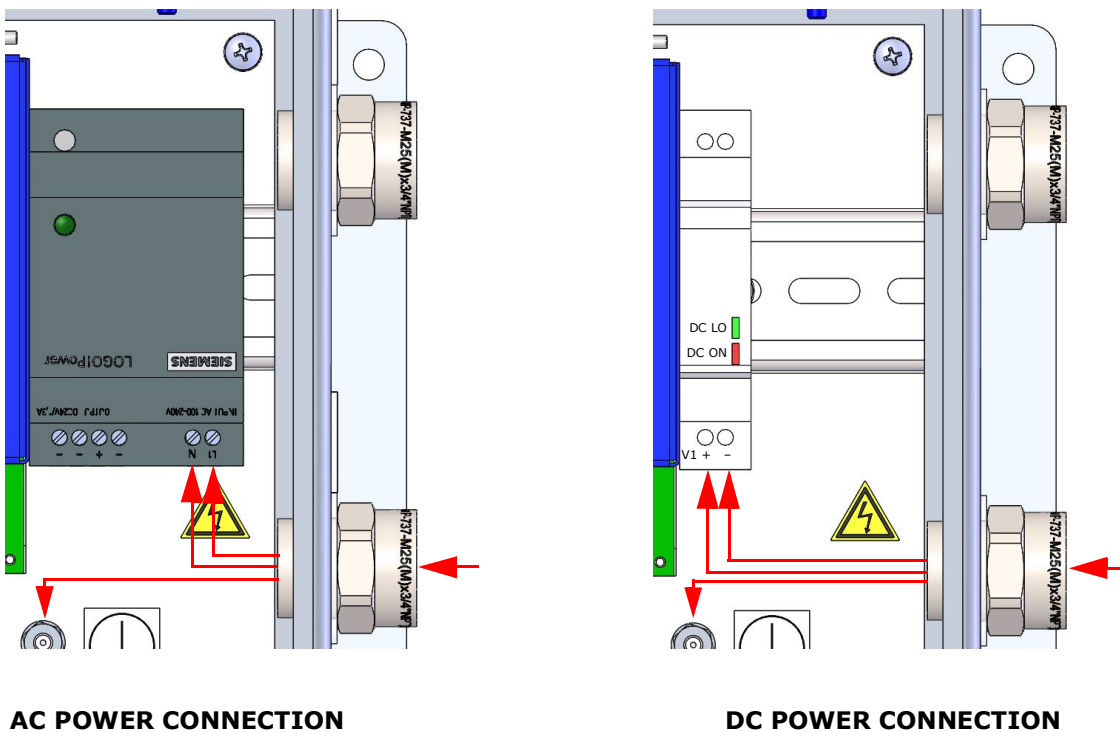

Figure 1 AC/DC power connections
- For AC systems, pull ground, neutral (N) and L1 wires into the electronics enclosure. Refer to Figure 1.
For DC power, pull V1 +, - and ground wires into the electronics enclosure. Refer to Figure 1.